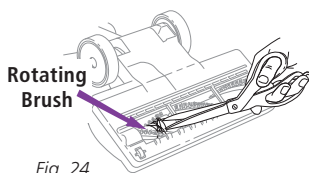

Fig. 24
- 2 Inspect the opening underneath and the rotating brush. If a build-up of debris is present, remove it. Carefully cut anything wound around the rotating brush with scissors. Avoid damaging or cutting the bristles. (Fig. 24)